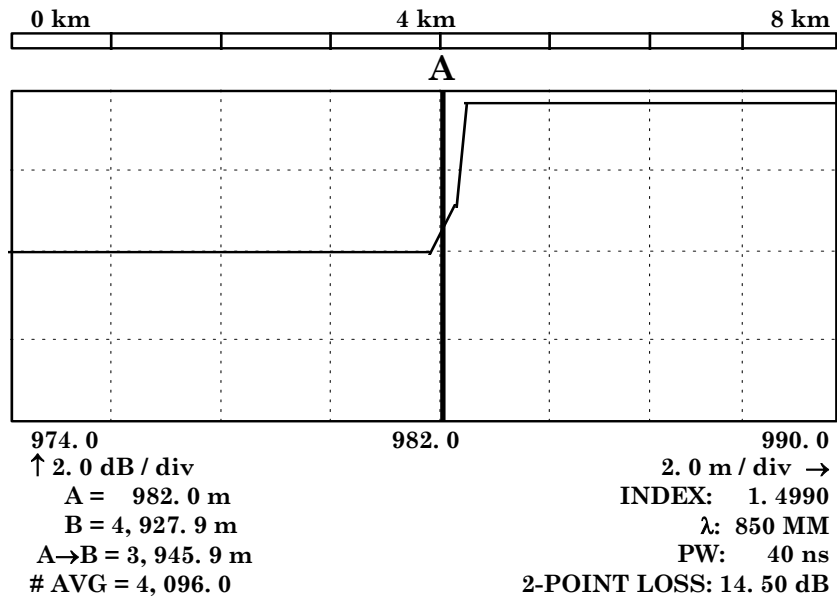
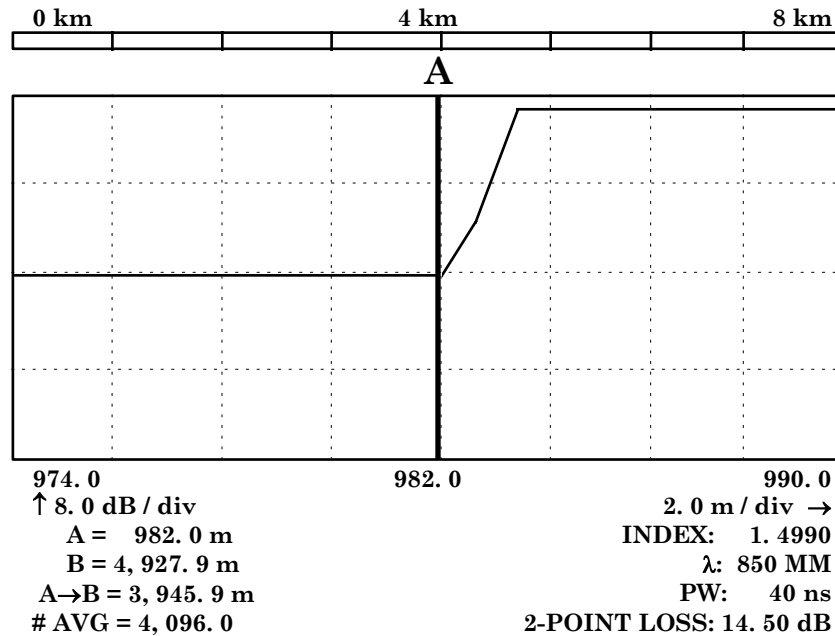

Figure 24. Example of FOCUS generated pulse placement to left of cursor A before starting 1 nanosecond increments (TD-260C).
Figure 25. Example of FOCUS generated pulse placed in best possible position with respect to cursor A (TD-260C).
l. To find lowest A = T+ value for FOCUS generated pulse at cursor A, perform steps (1) through (6) below:
(1) Press **FAST SCAN** pushbutton, wait for **LASER ON/AVG** to go off display.
(2) Press digital delay generator **MENU DELAY** pushbutton to decrease A = T+ in 3 nanosecond increments.
(3) Repeat technique of (1) and (2) above until beginning of FOCUS generated pulse shifts to left just in front of cursor A (fig. 24).
(4) Press digital delay generator **MENU DELAY** pushbutton to increase A = T+ by 1 nanosecond.
(5) Press **FAST SCAN** pushbutton and wait for **LASER ON/AVG** to go off display.
(6) Repeat technique of (4) and (5) above until very beginning of FOCUS generated pulse is on cursor A, figure 25. (Digital delay generator A = T+ value will be lowest value to obtain this condition).